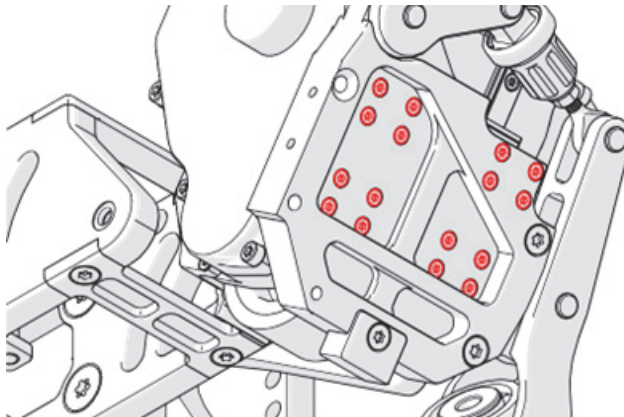

Figure 2-31 Remove 16 screws
11. Using a T-10 Torx driver, remove the 16 screws identified in Figure 2-31 on page 104 from the carriage.